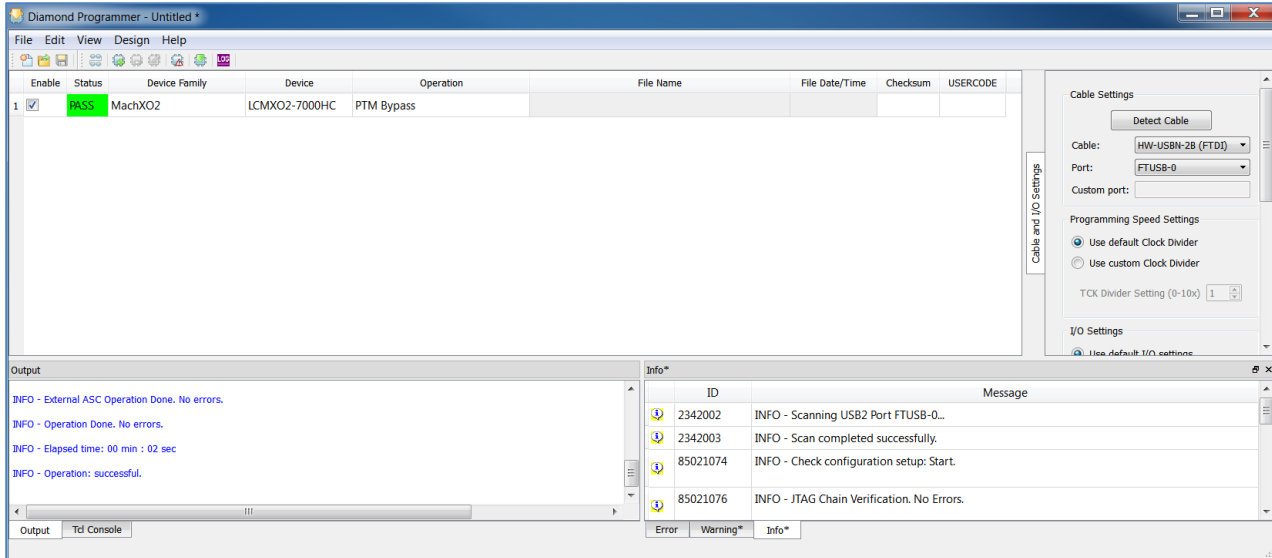

Figure 5.22. ASC Socket – Programming Completed
9. When the programming of the device is completed, the **Status** option changes to **PASS** and **Operation: successful** message appears in the **Output** console as shown in Figure 5.22. During the programming activity the MXO2\_SDA and MXO2\_SCL LED light blink on the board showing communication between the MachXO2 and ASC devices. *Done* is not a dedicated output in the MachXO2 family. *Done* LED indication is not supported.